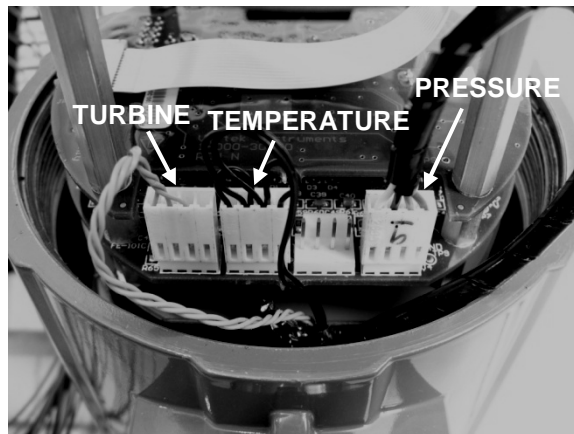

Figure 5-1. Electronics Stack Sensor Connections
3. Using ESD precautions and hazardous area precautions, remove the electronics enclosure window cover. Disconnect the turbine sensor from the electronics stack or remote feed through board. Refer to Figure 5-1 or 5-2. Measure the resistance from each outside pin to the meter ground - each should read a very low resistance. Measure the resistance from the center pin to the meter ground – this should be grounded to the meter.
3. Using ESD precautions and hazardous area precautions, remove the electronics enclosure window cover. Disconnect the temperature sensor from the electronics stack or the remote feed through board. Refer to Figure 5-1 or 5-2. Measure the resistance across the outside pins of the temperature sensor connector. It should read approximately 1080 ohms at room temperature (higher resistance at higher temperatures).
3. Locate the sensor harnesses which come up from the neck of the flow meter and attaches to the circuit boards. Make note of the location of each sensor connection. Refer to figures 5-1 and 5-2. The turbine sensor connection is on the left, the temperature sensor connection (if present) is second from the left, and the pressure sensor connection (if present) is the right most connector. Use small pliers to pull the sensor wiring connectors off of the circuit boards.